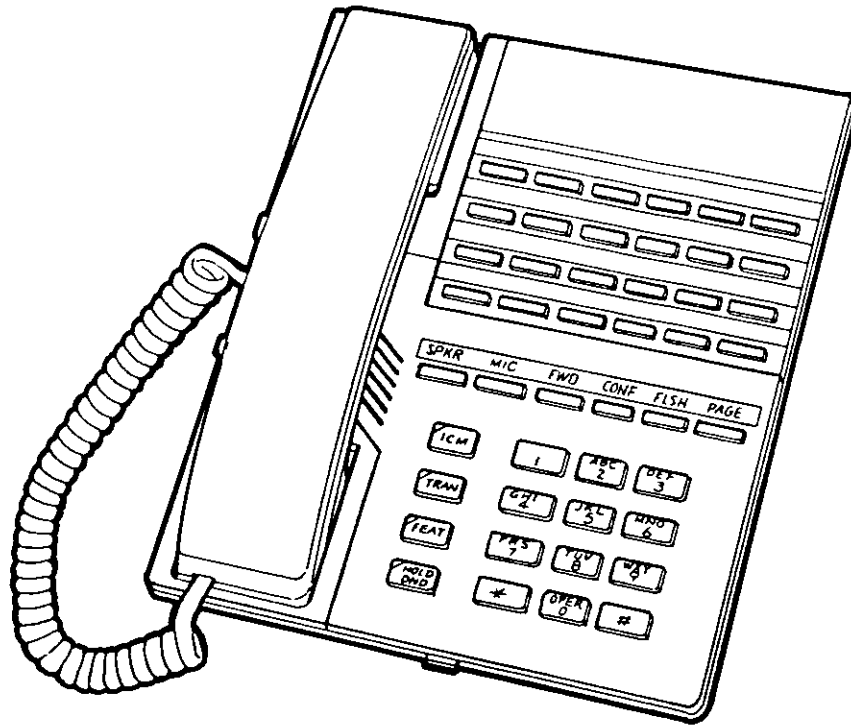

FIGURE 2-10 ZT-24K
- The ZT-24K electronic key telephone, as illustrated in FIGURE 2-10, features twenty-four (24) working keys that can be programmed to a user's individual requirements. All other station feature/function keys are non-programmable.